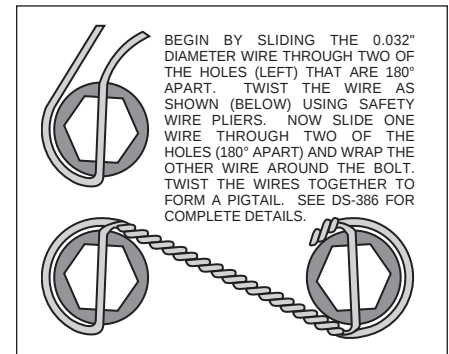

Figure 2. Safety Wire Diagram
• **NOTE:** When cross-drilled bolts are supplied with the rotor bolt kits, the additional step of safety wiring bolts is recommended. Safety wire bolts using standard 0.032 inch diameter stainless steel safety wire as shown in Figure 2. Please refer to Wilwood's data sheet DS-386 (available at [www.wilwood.com/Pdf/DataSheets/ds386.pdf](http://www.wilwood.com/Pdf/DataSheets/ds386.pdf)) for complete safety wire installation instructions.